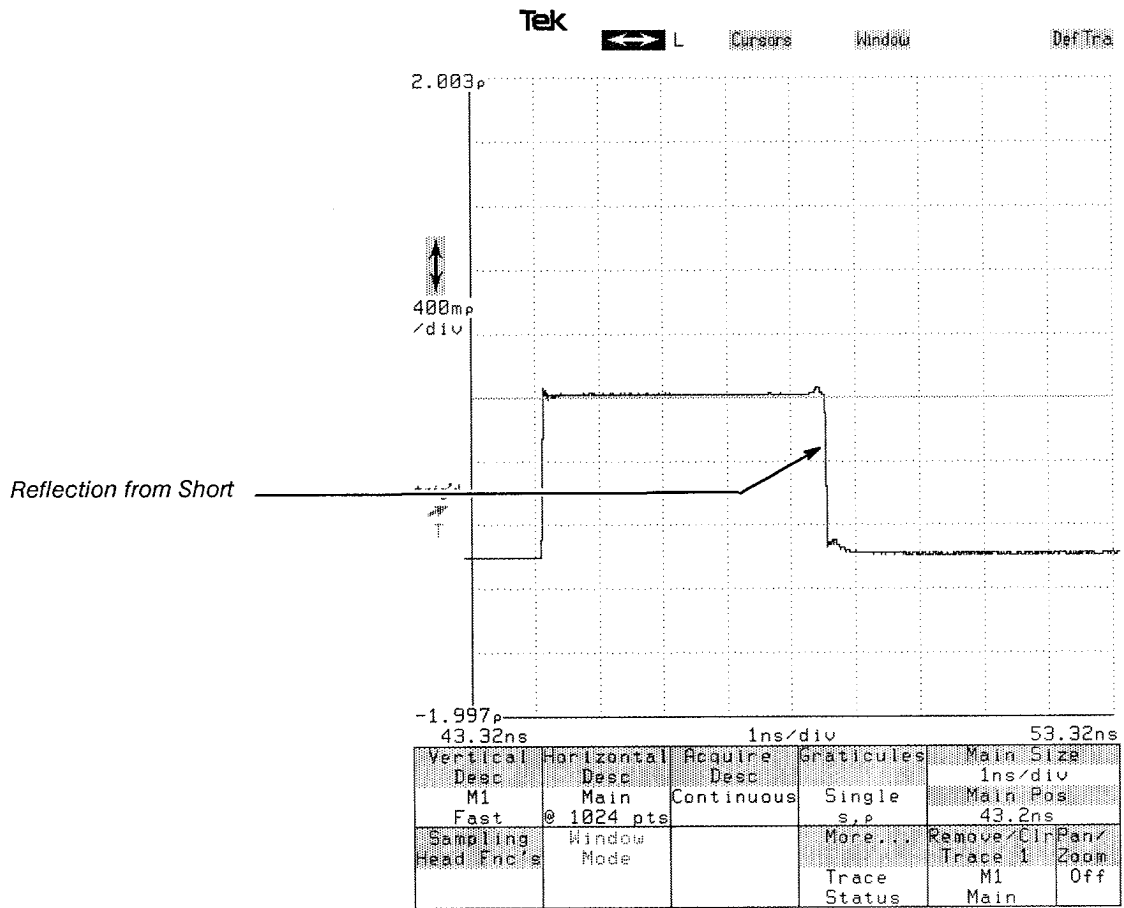

Figure 11 – Foot Switch Pressed
Step 3: Press the foot switch and locate the falling edge reflection from the short circuit termination on the TDR waveform display by using the oscilloscope's horizontal position control (see Fig. 11).